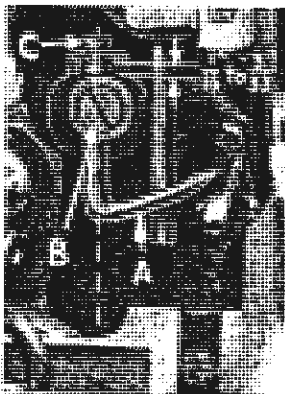

Fig. 8
Insert upper looper (A, Fig. 8) in its holder. Screw (B), holds upper looper in its holder, and permits it to be pushed in or out of turned around its shank. Insert upper looper holder into upper looper shaft, if it is not already in place. Screw (C), on clamp holds the upper looper holder in the shaft. Locate upper looper in its holder so that the shank extends  $1/16$  to  $3/32$  inch beyond holder (Fig. 8), FS, FT, FU, GD, GL, GT, and JP.
When the upper looper is at the right end of its stroke, upper looper holder should be set to position upper looper shank approximately vertical on Styles 39500 FS, FT, FU, and GT (Fig. 8).